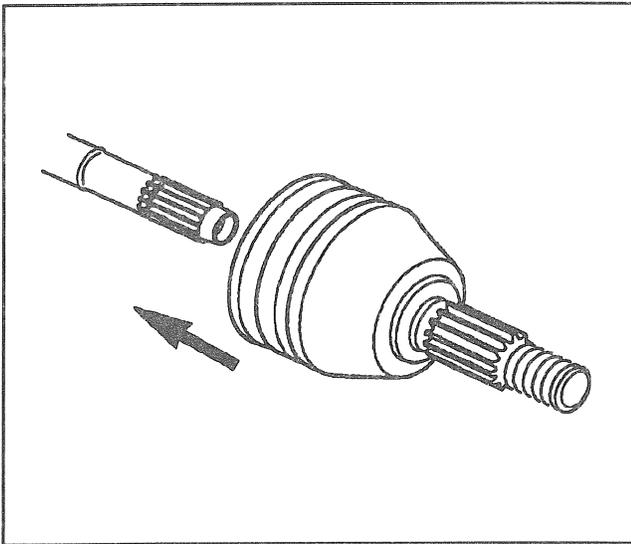

Figure 55—Installing C/V Joint
→← Install or Connect (Figures 55 through 58)
- B. Push C/V joint onto axle shaft until retaining ring is seated in groove on axle shaft (Figure 55).